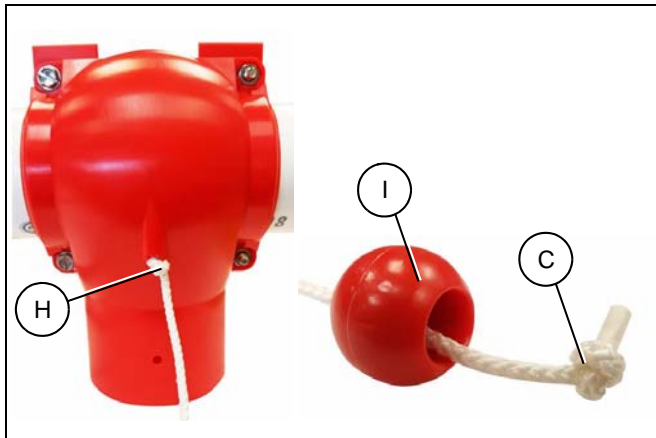

Figure 6J
- Mark the cord on the opposite side where it enters the guide hole and tie a knot (C). Also, install the red indicator ball (I) at the end of this cord and tie a knot (C). (See Figure 6J.)